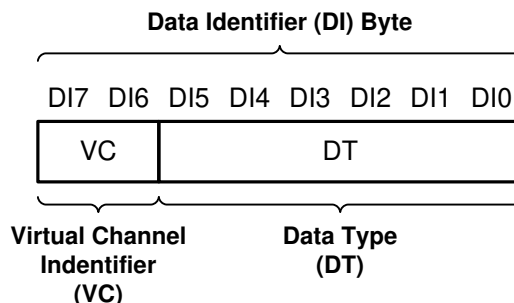

Figure 7-9. CSI-2 Data Identifier Structure
The DS90UB638-Q1 MIPI CSI-2 protocol interface transmits the data identifier byte containing the values for the virtual channel ID (VC) and data type (DT) for the application specific payload data, as shown in Figure 7-9. The virtual channel ID is contained in the 2 MSBs of the data identifier byte and identify the data as directed to one of four virtual channels. The value of the data type is contained in the six LSBs of the data identifier byte. When partnered with DS90UB63x-Q1 CSI-2 serializer, the Data Type is passed through from the received CSI-2 packets.